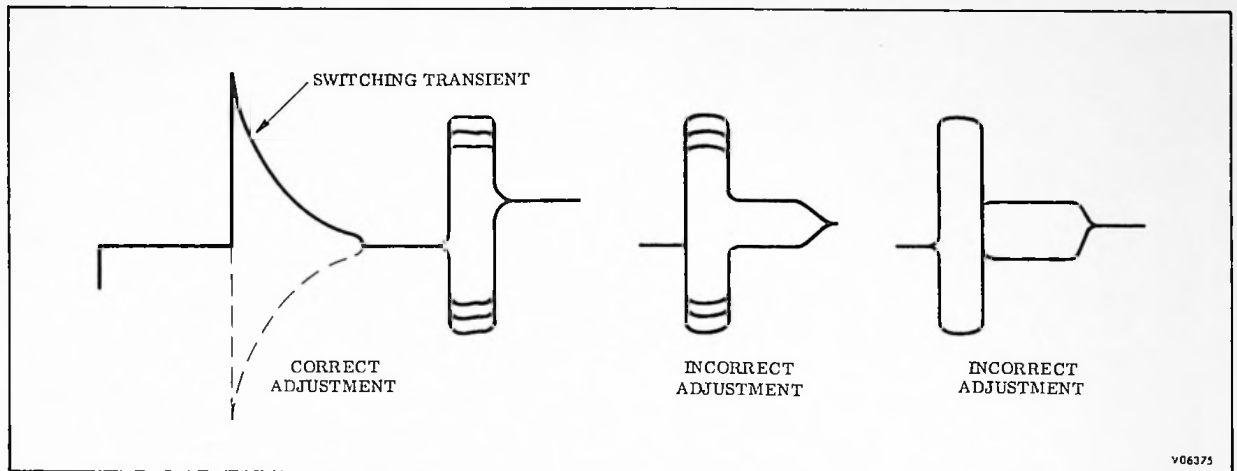

Figure 5.2-12. Waveform for Colortec Gain Adjustment
- d. Observe the amplified subtracter-pulse waveform present at TP2, board 9, with attention directed to the first pulse following the switching transient which occurs at sweep triggering time (see Figure 5.2-12). This pulse is associated with the second picture line in head band number 1.